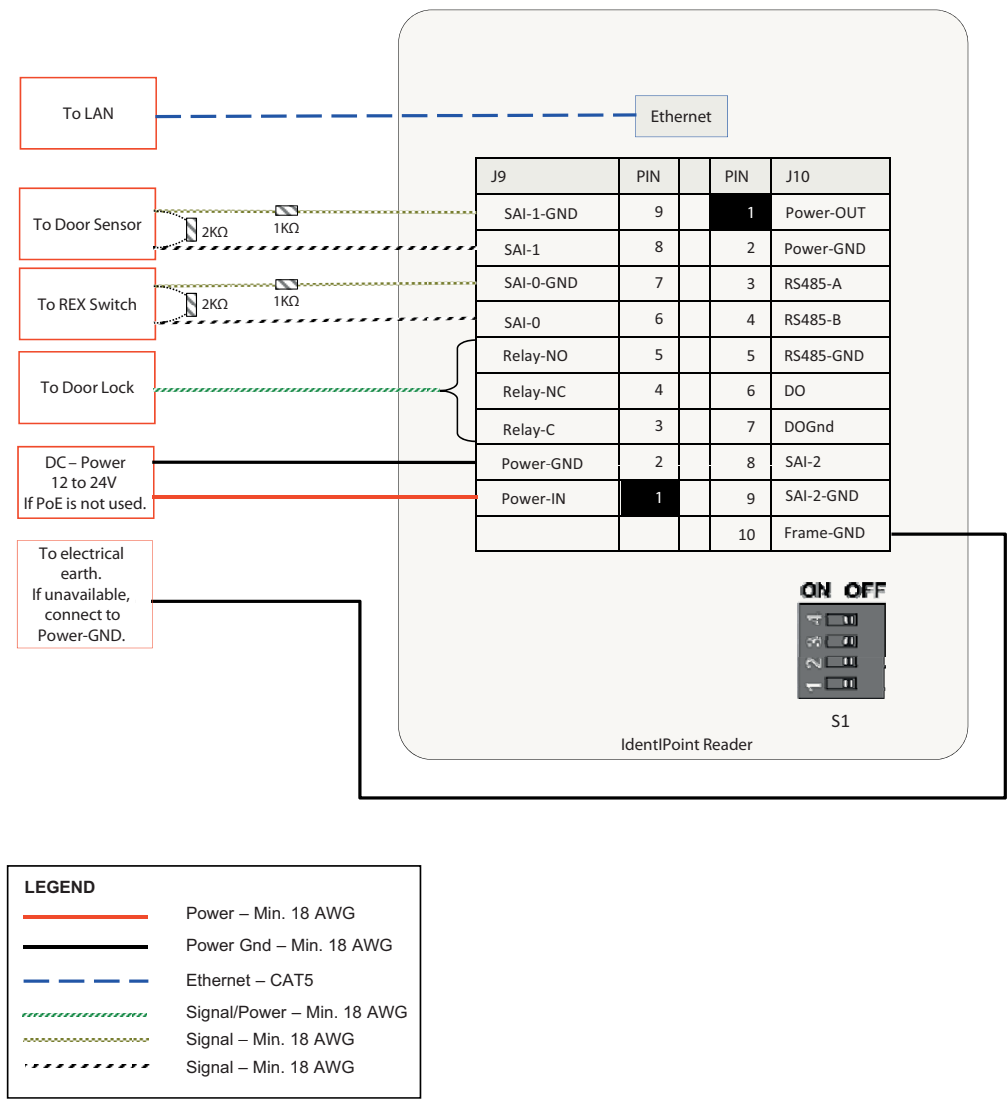

Fig. 21. Connections for single reader with REX and without IOM
1. Run the field wiring to the readers as per the job drawings. Figures 21 through 24 show typical wiring schemes for IdentIPoint devices. Wires of a minimum gauge of 18 AWG are recommended for all wiring with the upper limits specified for some applications. See Table.2 for details on wire sizes and maximum permissible distances. 18 AWG wires (0.3 sq. mm) must be limited to 1A loading. When used for carrying communication data as in RS485, the wires must be a twisted pair.